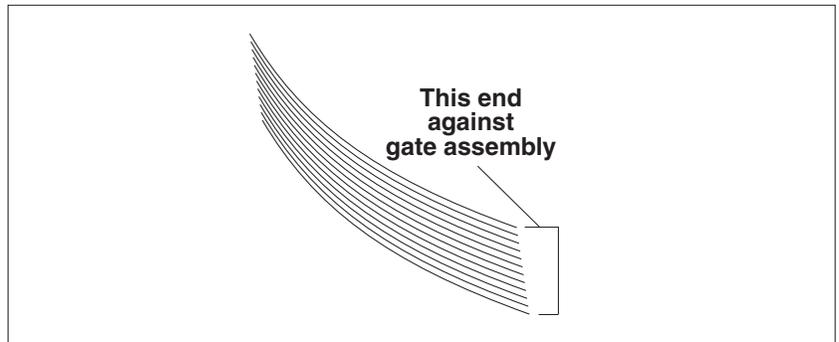
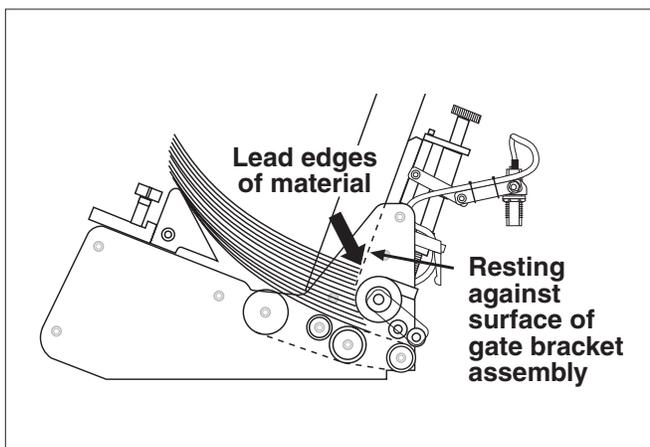

Figure 29. Preshingling of First Stack
Figure 30. Leading Edges Against Gate Bracket Assembly and Side Guides
- Start by preshingling by hand a small stack of material (Figure 29) so that it conforms to the curvature of the gate assembly. Push in gently to make sure lead edges touch the gate bracket assembly and front edges of the hopper guides (Figure 30).